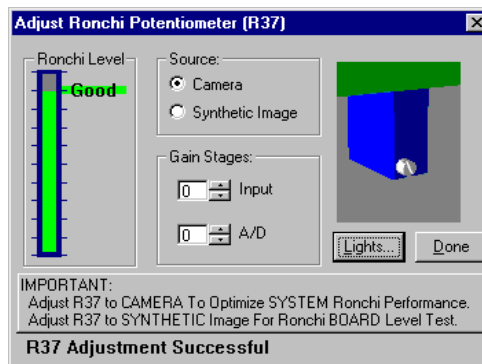

Figure 8-20 Adjust Ronchi Potentiometer (R37) Window
- c. The second adjustment is for the Ronchi Grid; see Figure 8-20.